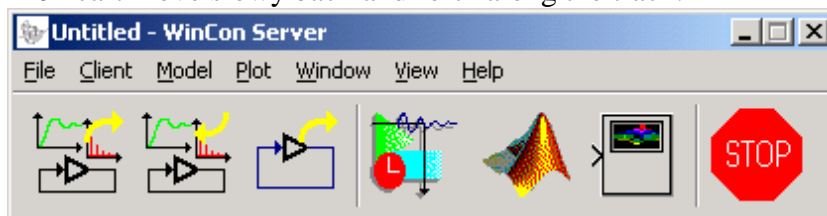

Figure 8 WinCon Server
Step 16. Click on the START button in WinCon Server window to start the model. Once the real-time code has been started and runs, the START button, originally green, will turn red and display STOP, as illustrated in Figure 8. You should now see the IP01 or IP02 cart move slowly back and forth along the track.